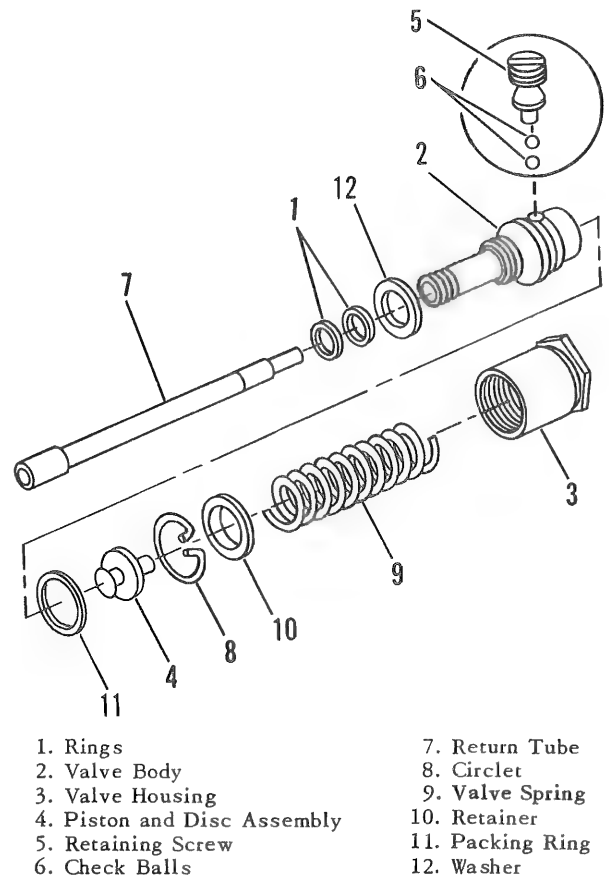

Figure 3-74. Supercharger Drain Valve
b. Using an open end wrench, remove complete supercharger drain valve assembly from supercharger rear section. Discard two rings (1, figure 3-74) located in groove in small diameter end of valve body (2).
c. If valve housing (3) is removed from valve body, leaving body in supercharger section, remove
3-340. DISASSEMBLY. (See figure 3-74.)
a. Assemble valve spring (9, figure 3-74) and retainer (10) in valve housing (3) insuring lugs on retainer face are away from spring. Install circllet (8) with needle nose pliers.
b. Insert one check ball (6) through valve body (2). Tip body to seat ball in bottom center of body. Insert other ball through screw hole at side of body. Install retaining screw (5), ensuring that balls are not jammed. Check by shaking assembly. If balls do not rattle, adjust retaining screw.
c. Lubricate a new packing ring (11) with anti-seize compound, Military Standard MS35496, and install it on outer end of valve body.
d. Install piston and disc assembly (4) by inserting large diameter end of assembly into hole in valve body. Assemble valve housing to valve body and tighten.
e. Insert small end of return tube (7) into valve body, using a fiber mallet to seat tube.
3-345. INSTALLATION. (See figure 3-74.)